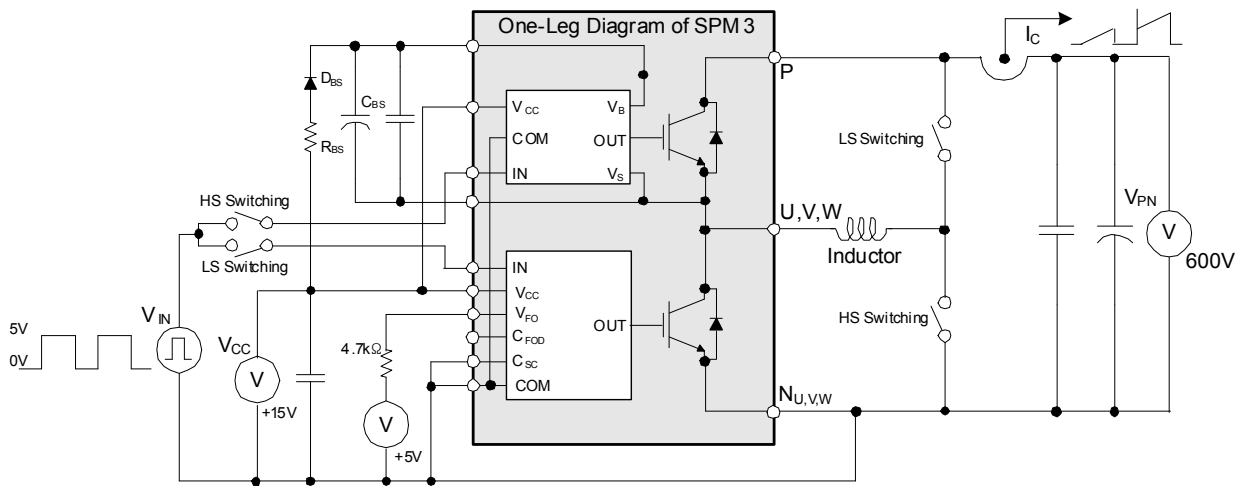

Figure 5. Example Circuit for Switching Test
- For inverter high-side IGBTs: gate drive circuit, high-voltage isolated high-speed level shifting control circuit, Under-Voltage Lock-Out Protection (UVLO), Available bootstrap circuit example is given in Figures 5 and 14.